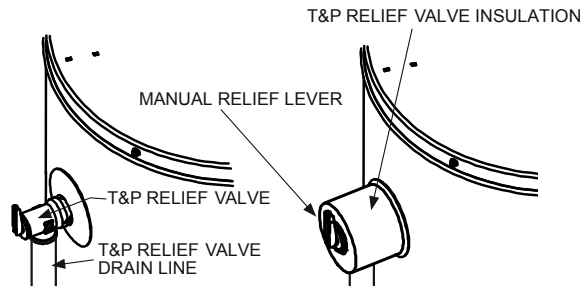

FIGURE 15A.
1. Locate the temperature and pressure relief valve on the water heater (also known as a T&P relief valve). See Figure 15A.
3. Spread the slit open and fit the insulation over the T&P relief valve. See Figure 15A. Apply gentle pressure to the insulation to ensure that it is fully seated on the T&P Relief Valve. Once seated, secure the insulation with duct tape. **IMPORTANT:** The insulation or tape should not block or cover the T&P relief valve drain opening. Also, the insulation or tape should not block or hinder access to the manual relief lever (Figure 15A).